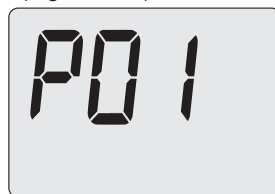

Figure 7.24
- Enter “programming mode” by holding down buttons 17 and 18 for 5 seconds at the same time (Figure 7.21). The code **P01** appears on the display, indicating entry into “parameter P01” (Figure 7.24).
value entered and return to the list of parameters (Figure 7.24).